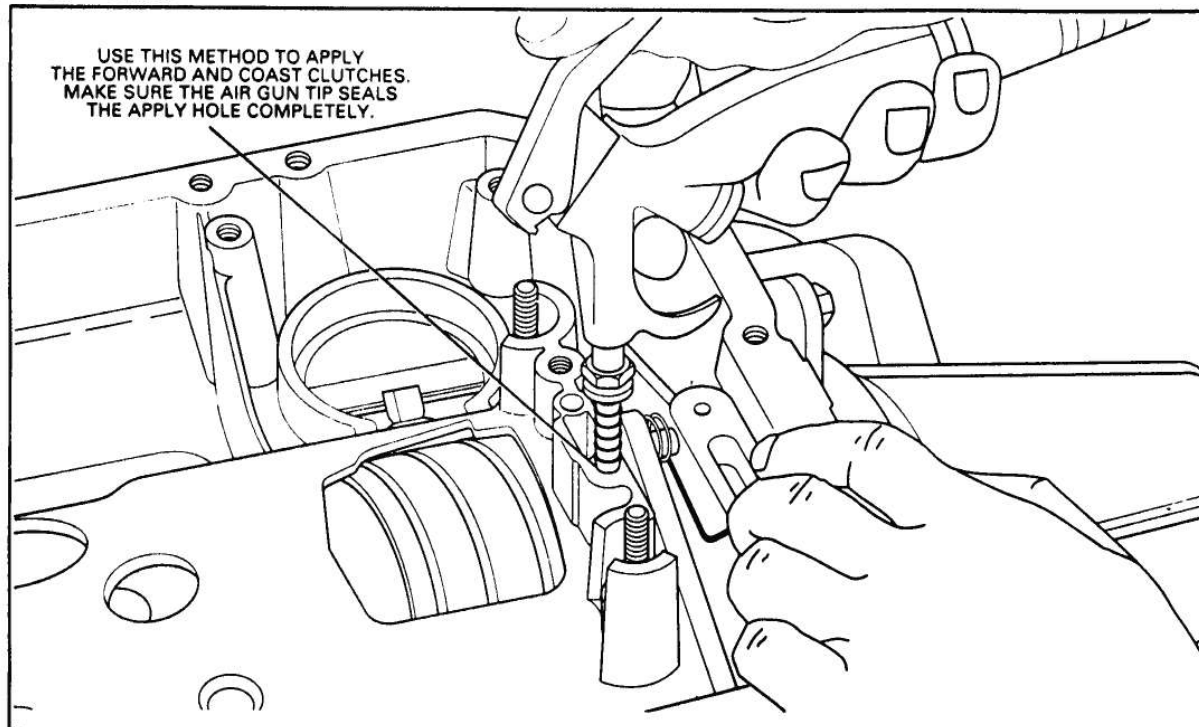

Figure 141
1. Use Figure 141 and 142 for air checking procedures, before case cover installed.